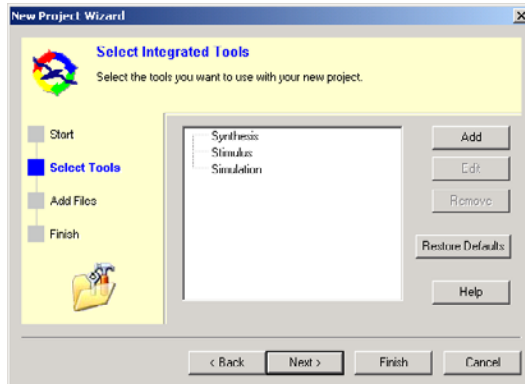

Figure 2-2. Selected Integrated Tools in New Project Wizard (Libero IDE)
- Click **Next** to **Select Integrated Tools** in the New Project Wizard (Figure 2-2).